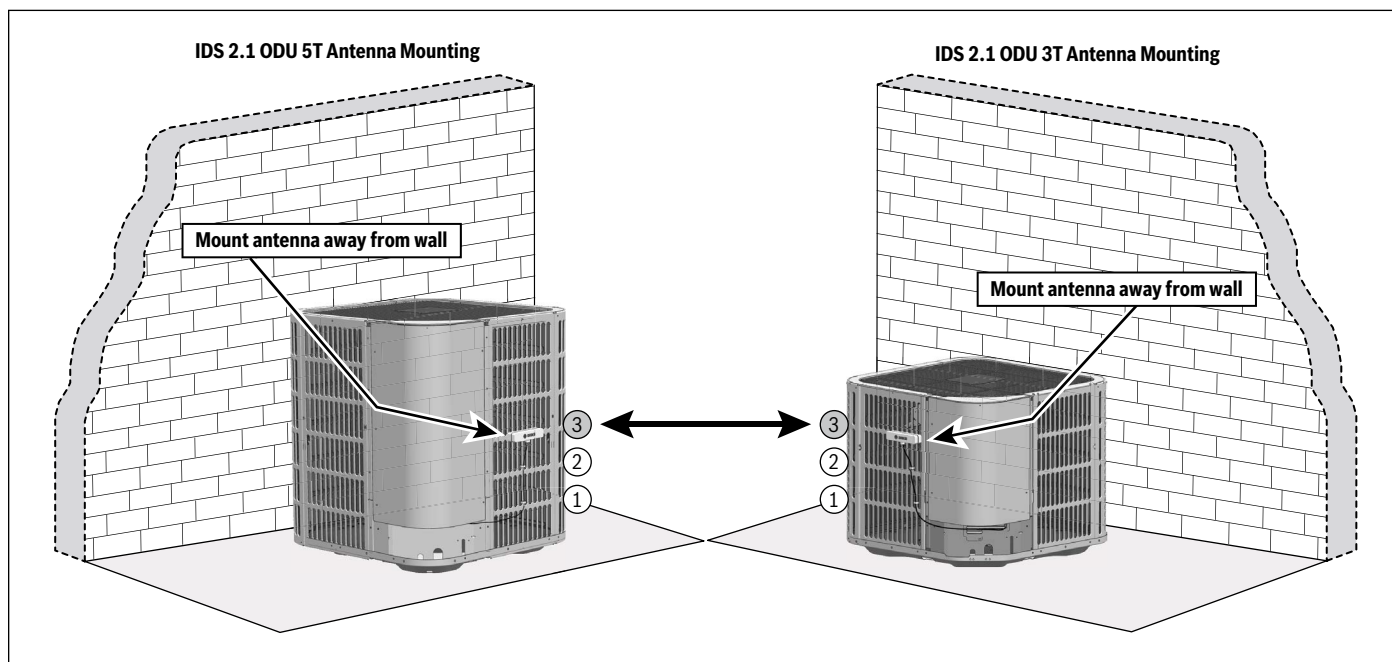
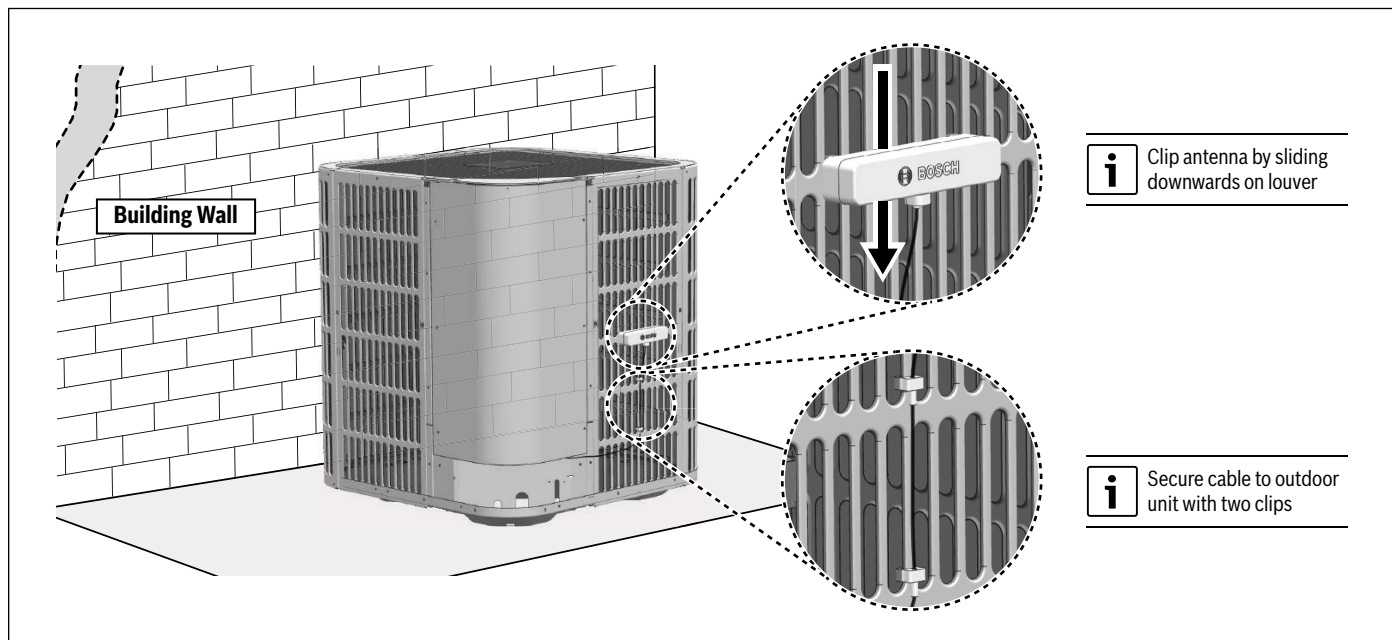

Figure 10
Figure 11
1. Mount antenna on top of louver 3 (Refer to figure 10) on the left or right side of the unit depending on which is furthest from a wall. Slide the antenna downwards to mount the antenna and secure the cable using the 2 movable clips on the cable. Refer to figure 11.